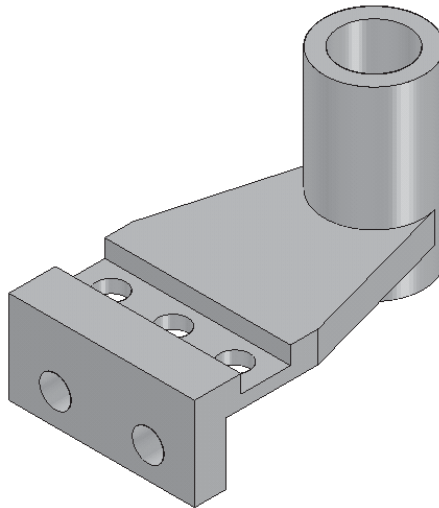

Figure 4-64 Final model for Tutorial 2
- Similarly, create the remaining cutouts to complete the model, refer to Figure 4-64.
1. Similarly, create the remaining two cutouts. The model, after creating all features, is shown in Figure 4-64.